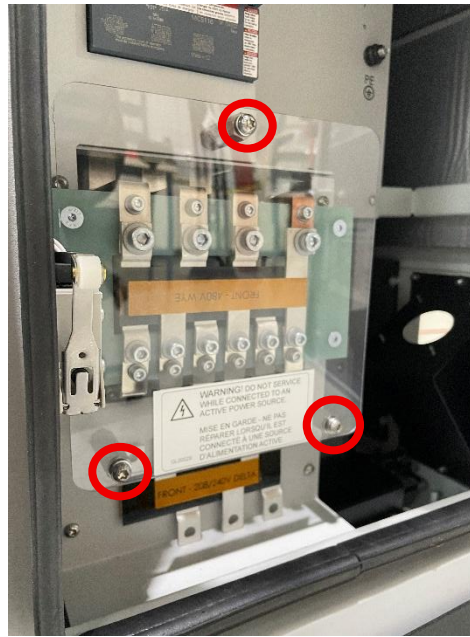

Figure 6
4. Unscrew three button head hex-drive screws (Figure 6) securing the acrylic plate over the configuration bus bar and copper conductors, then set plate and screws aside.